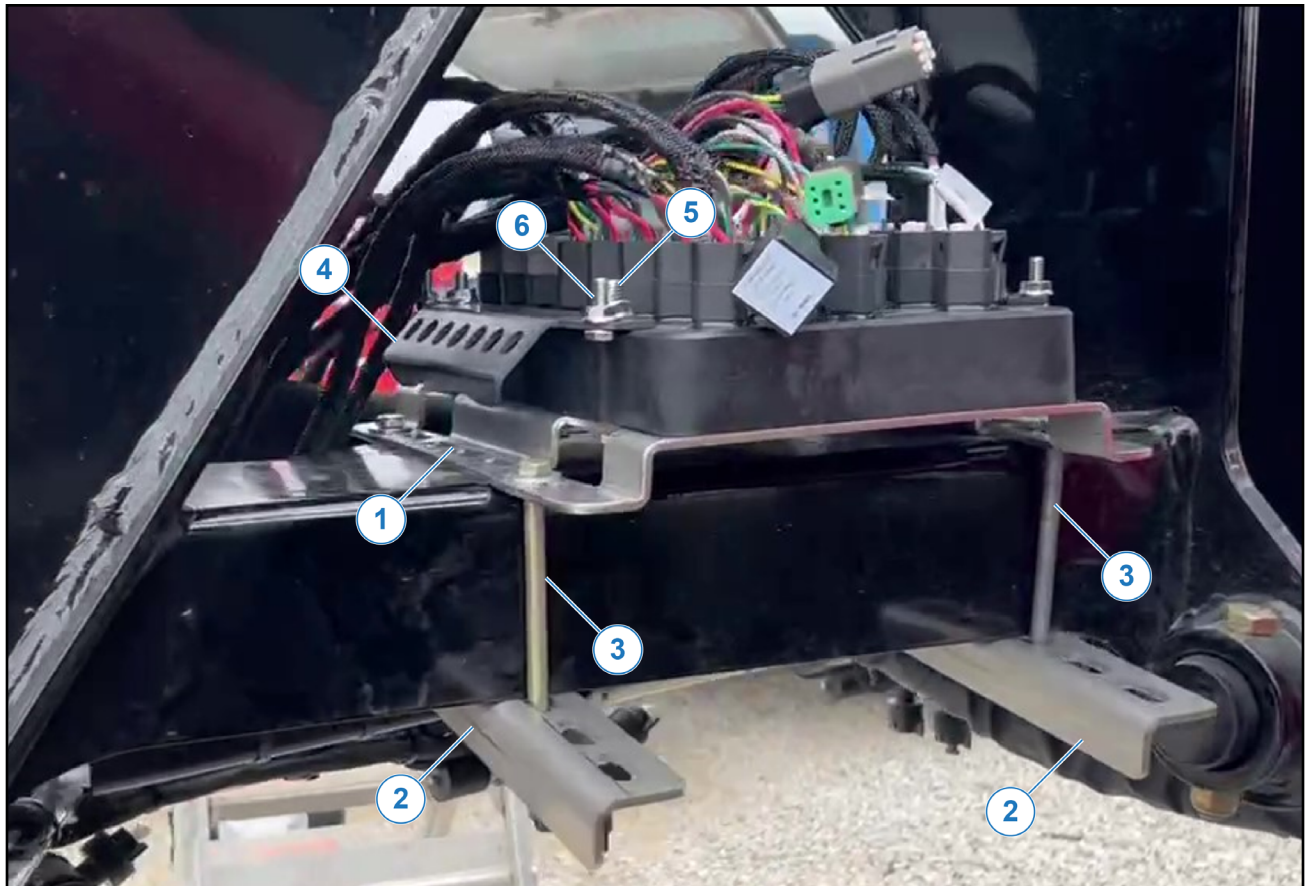

Figure 4: Horizontal Mounting Bracket Installation
8. Secure universal mounting bracket (123000-013) (Figure 4, Item 1) to boom frame using two mounting brackets (118640-108) (Figure 4, Item 2), 6" carriage bolts (713501-433) (Figure 4, Item 3), flat washers (713900-002) and flange nuts (713501-447).
9. Insert 5/16" x 2 1/4" bolts (Figure 4, Item 5) included with Envelope Hub through strain relief bracket holes (Figure 4, Item 4), through Envelop Hub mounting holes, and attach to universal bracket installed in previous step with included flange nuts.
10. Insert 1/4" bolts from backside of strain relief brackets and attach with flange nuts (Figure 4, Item 6). Proceed to Step 13.